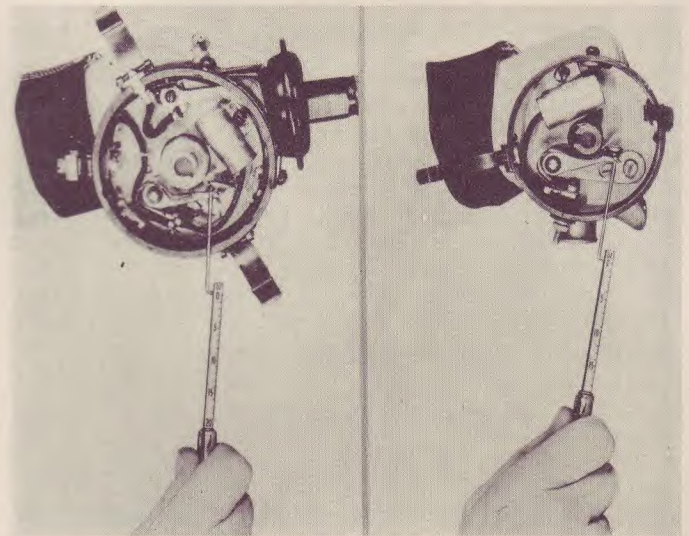

FIGURE 5-8
**Contact point pressure** is checked by using a spring gauge hooked to the lever arm as shown in Figure 5-8, and the pull exerted in the direction indicated. For the two types of arms, the tension should be as shown. Adjustment may be made by bending the breaker lever spring to increase or decrease the tension as required.